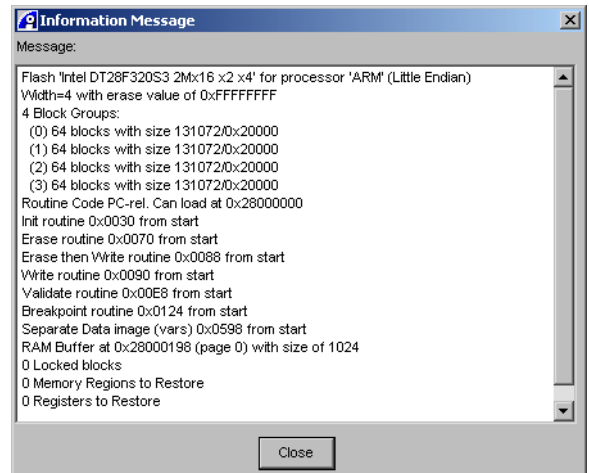

Figure 8-6 Flash memory details
9. If you want to view details of the Flash memory, click **Flash** in the Flash Memory Control dialog box. This displays details of the Flash memory, as shown in Figure 8-6 on page 8-21.